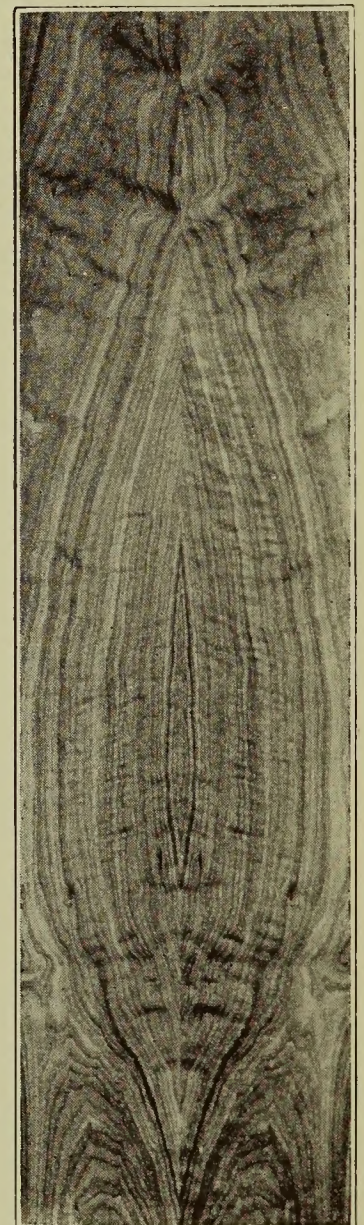

Fig. 2
After one has chosen the species desired, *one classification of each group* must be named. (Example: American Walnut, 1/28" sliced, figured, longwood, two-piece book-matched.) (Fig. 2).
### A. *Longwood* or Trunkwood (Figs. 2—two-piece matched, 3, 4, 5, 6).
- A. **Book Matched**—or reverse side matched—when viewed at an angle shows light and dark, thus offering additional possibilities in obtaining interesting effects, e.g., in Greek cross design flat panel can give raised center (depth) effect. (Figs. 2, 8).
**Center Matched** (Figs. 2, 8, 10, 11)—Where two pieces of equal size are matched, with joint coming in center of panel.
- (c) Figured longwood (certified). (Fig. 2).
3. Cross figure (Figs. 2 and 3).